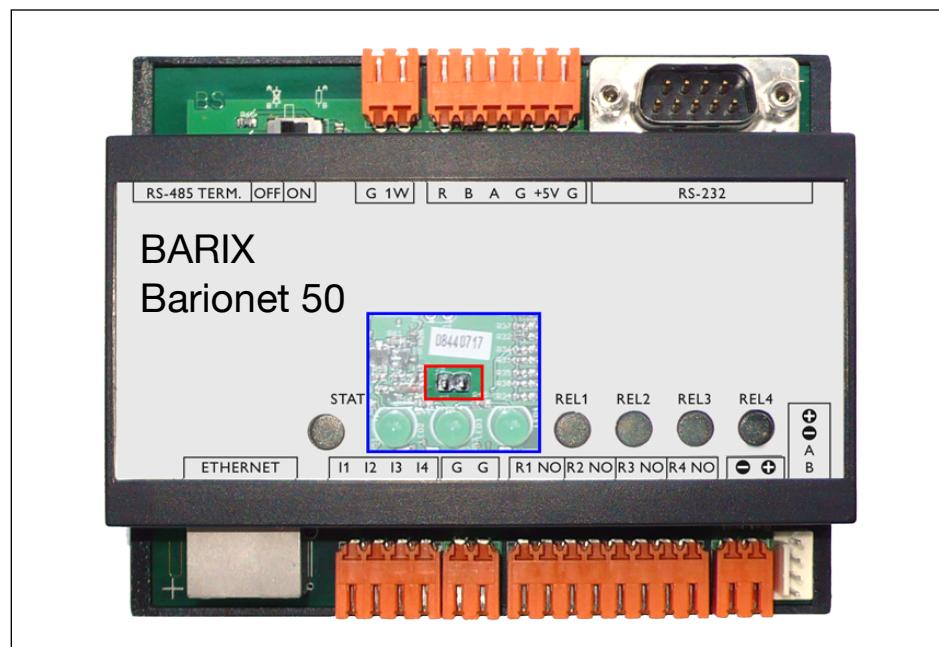

Figure 34. The Barionet 50 Reset jumper is under the lid near the RS-232 LED
3. The reset pins (J9) are located under the cover just above RS-232 LED. (See Figure 34).